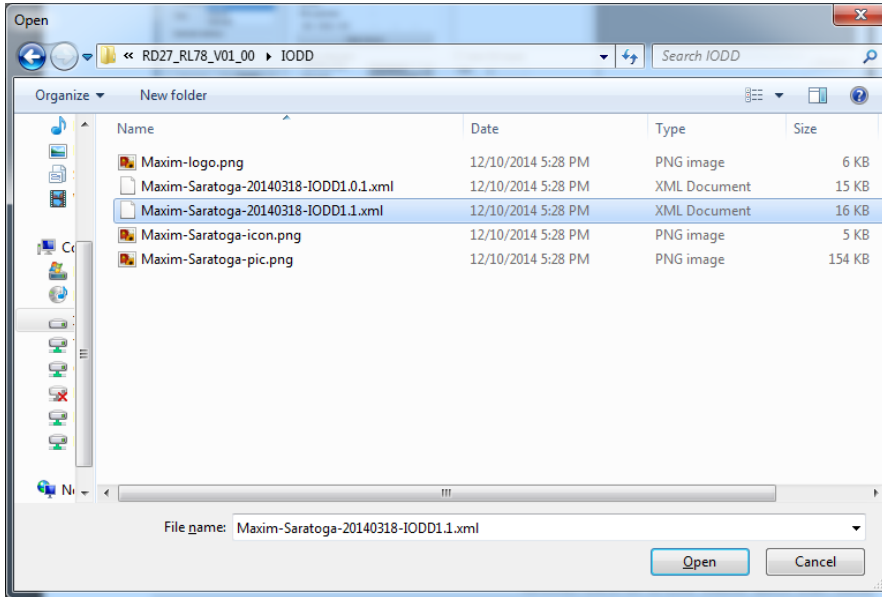
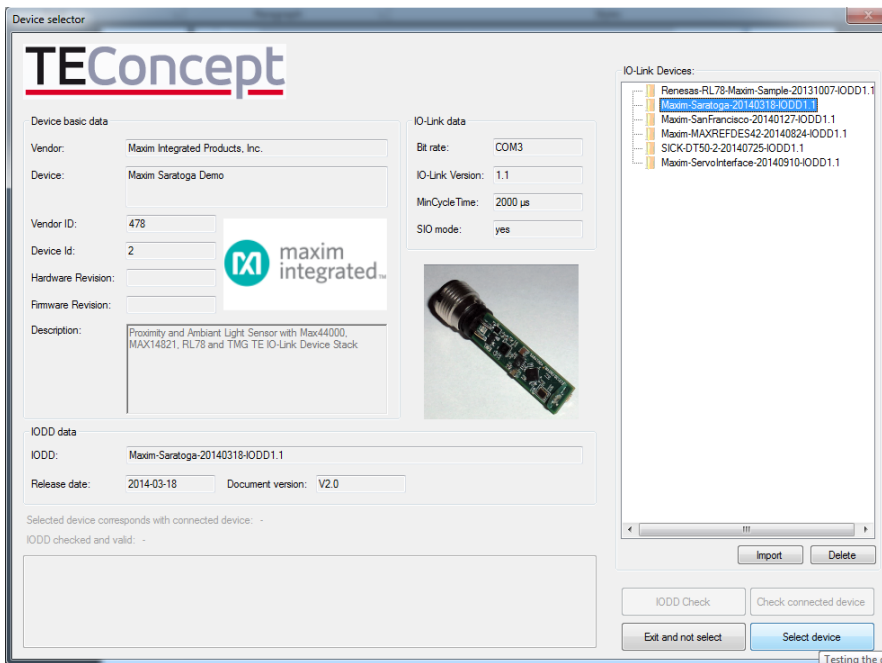

Figure 6. Sensor IODD file (*1.1.xml).
Figure 7. Press the Select device button when imported IODD files are highlighted.
- Load in the IODD file for your sensor or actuator. In this case, we show the MAXREFDES27# IO-Link proximity sensor (not included). First press the **Select device** button. In the **Device selector** window, press the **Import** button and select the sensor's ***1.1.xml** IODD file. Highlight the IODD file in the **IO-Link Devices** box and press the **Select device** button. See **Figure 6** and **Figure 7**.
Note: MAXREFDES27# is the part number; this design is also known by the product name 'Maxim-Saratoga' as shown in Figures 6 and 7.